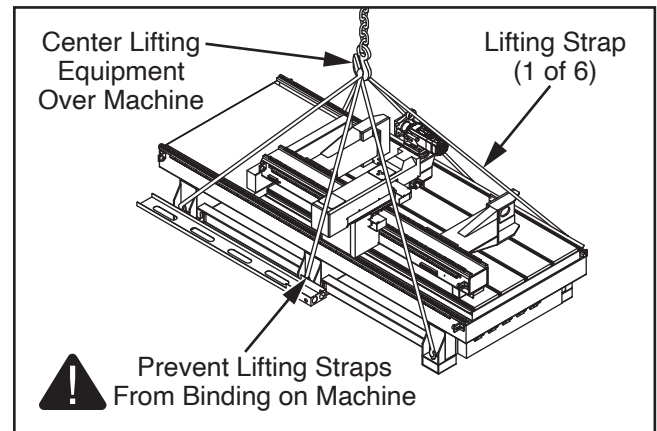

Figure 28. Lifting machine with straps.
11. Center lifting equipment over machine and connect lifting straps (see **Figure 28**).
12. Raise lifting equipment until lifting straps are taut, then verify none of the lifting straps are binding on machine (see **Figure 28**). Only lift machine enough to clear pallet, then move pallet out of the way.